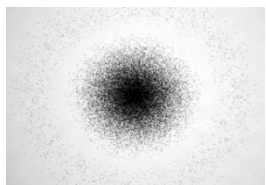

Figure 1. Microscope image (above) and AFM profile (below) of a micro dot patterned mask for JWST NIRCcam coronagraph
- Micro dot patterned mask for JWST (Fig 1)